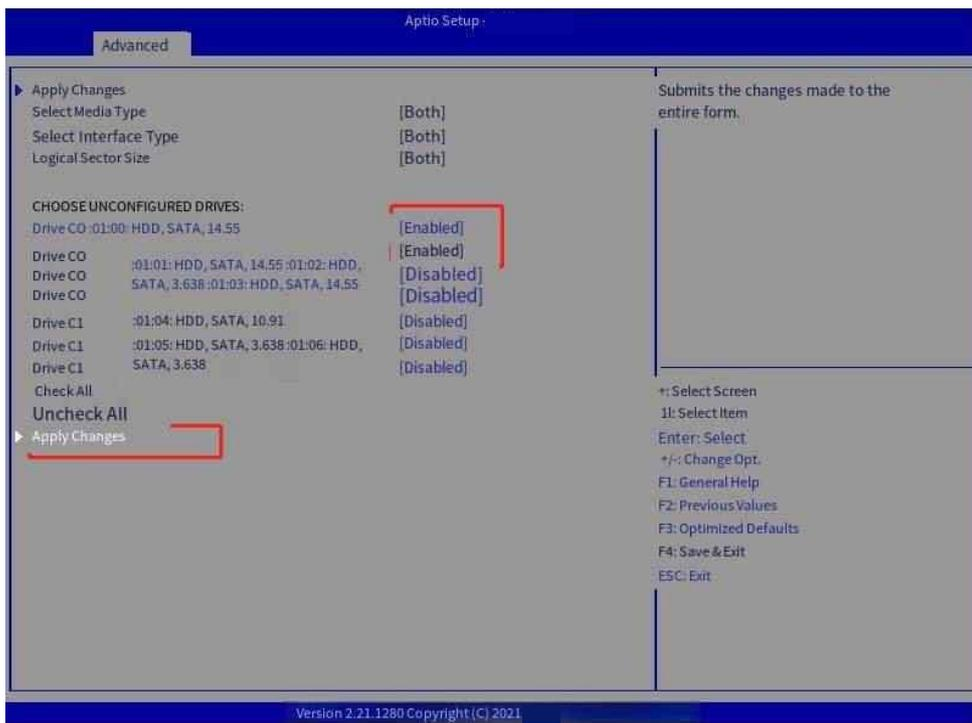
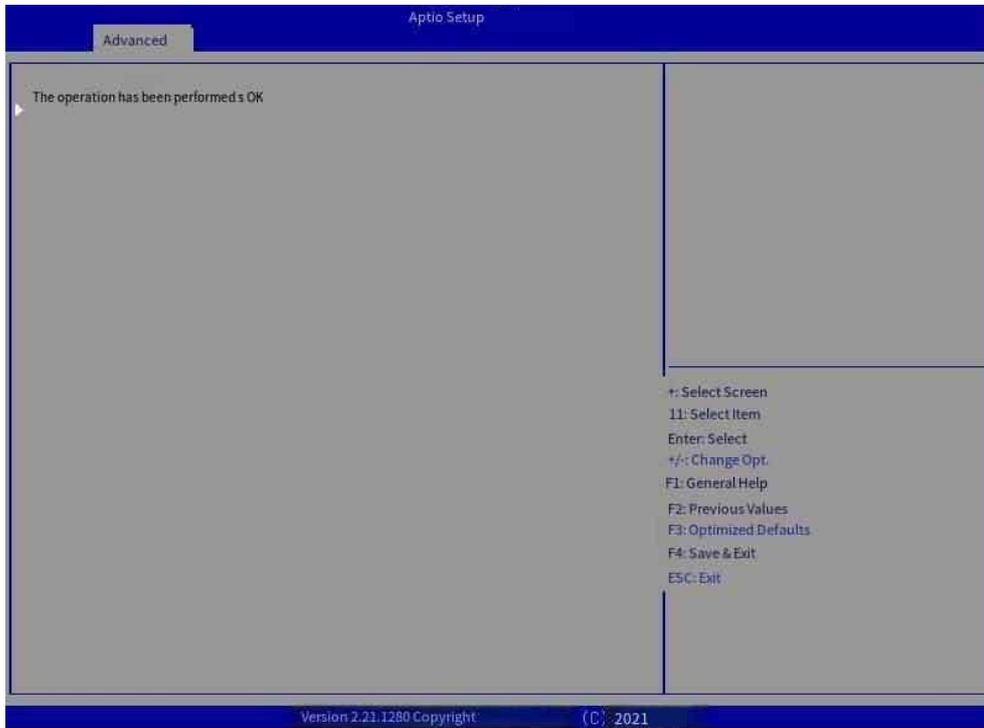

Figure 7-23 Select two drives to create Span0
Figure 7-24 Click OK
Step 3: Use ↑ and ↓ to Select Select Drives From and press Enter. Select member drives to create Span 0 and click Apply Changes->OK to create Span 0 (Figure 7-23, Figure 7-24).